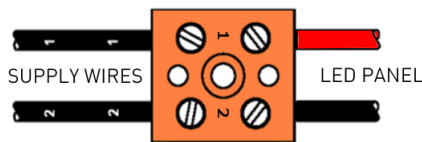

Fig 6
i) Follow "Glass Lens Replacement" steps i to iii above to remove the lens, ii) Loosen and remove the screws (W-404) retaining the LED board. Remove the two right-hand lens screws completely and now remove the six W-414 screws retaining the lamp bottom plate, iii) The LED board, lower plate, clamping plate and connector block can now all be separated from the head. [Take care not to damage the LED lenses when handling], iv) the LED panel can now be disconnected from the connector block and the new LED board connected Red to No.1, Black to No.2 See Fig 6